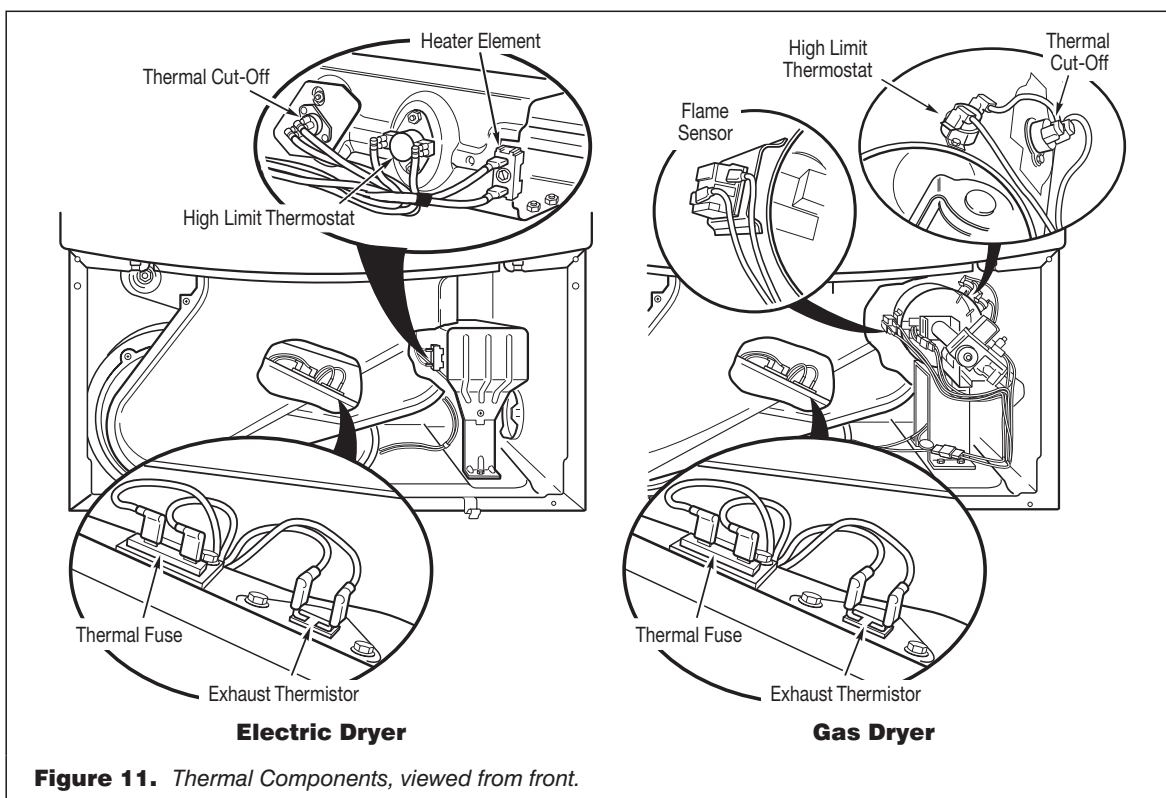

Figure 11. Thermal Components, viewed from front.
Locate the components using figure 11, page 7.
5. Locate the high limit thermostat. See figure 11. Measure the continuity through it by connecting the meter probes on the red wire and blue wire terminals.
- Check wire connections at the machine control electronics and thermistor. See Accessing & Removing the Electronic Assemblies on page 10, and for thermistor location, see figure 11.
2. Access the thermal fuse by first removing the toe panel. See Removing the Toe Panel, page 10; and for thermal fuse location, see figure 11, page 7.
3. Using an ohmmeter, check the continuity across the thermal fuse. See figure 11 for location.
3. Using an ohmmeter, check the continuity across the thermal cut-off. See figure 11, page 7 for location.